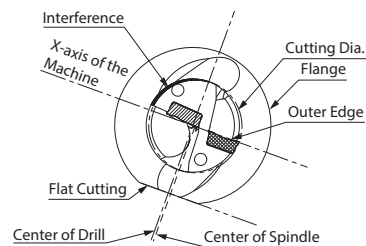

Fig.4 Excessive Offset (For Smaller Hole Diameter)
- Align the drill with the outer insert face parallel to the X-axis of the tool turret. (Fig.4)
Be sure not to make the hole diameter smaller than the drill diameter by 0.2mm or more. Otherwise, the toolholder will interfere with the drilled hole. (Fig.4)